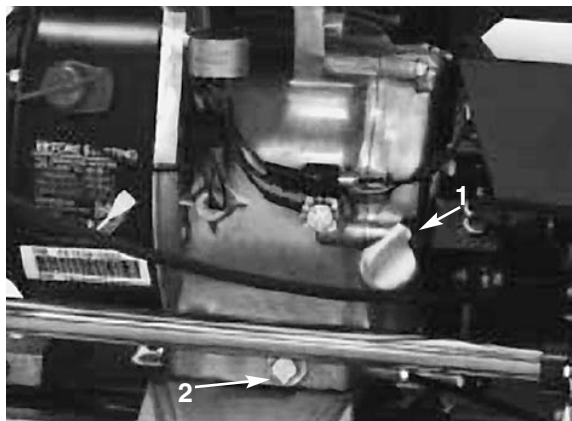

Figure 22
1. Position mower so the engine is level and clean around oil level gauge (Fig. 22).
2. Place a drain pan at the rear of the machine under the drain plug (Fig. 22). Remove the drain plug.